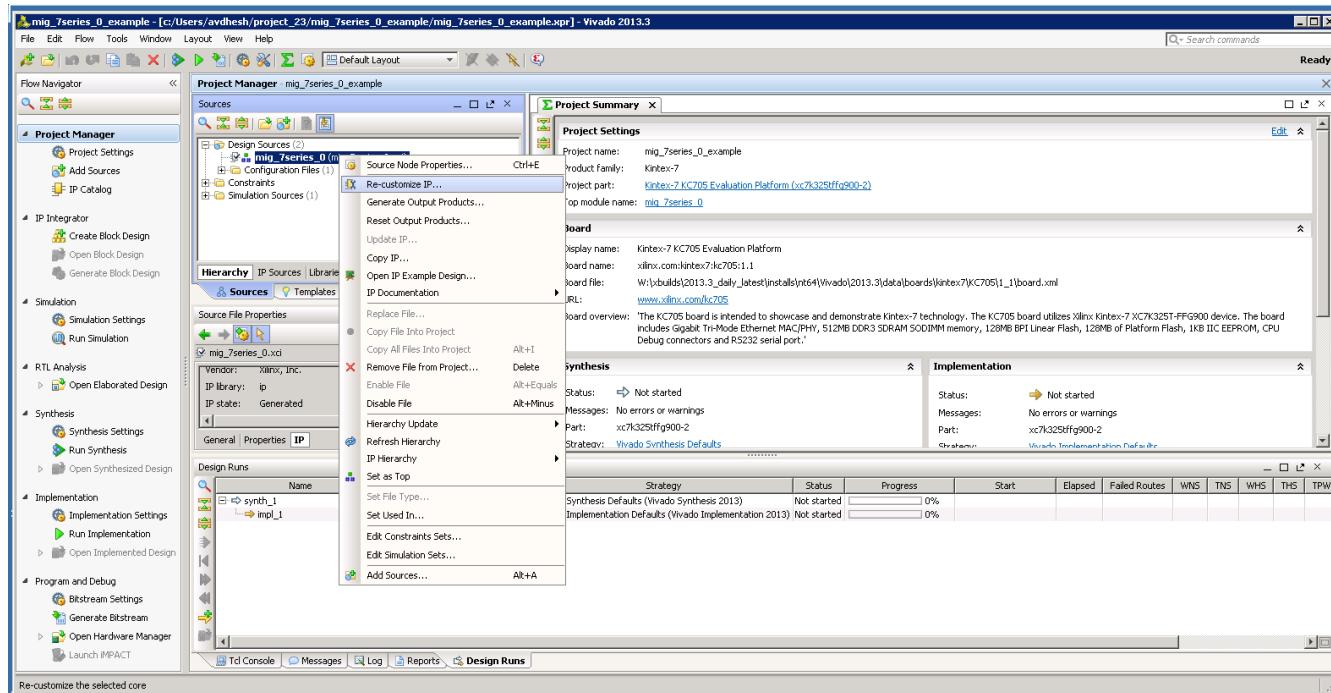

Figure 4-36: Recustomize IP
- Recustomization of the MIG IP core can be done by using the **Recustomize IP** option. It is not recommended to recustomize the IP in the `example_design` project. The correct solution is to close the `example_design` project, go back to original project and customize there. Right-click the XCI file and click **Recustomize IP** (Figure 4-36) to open the MIG GUI and regenerate the design with the preferred options.